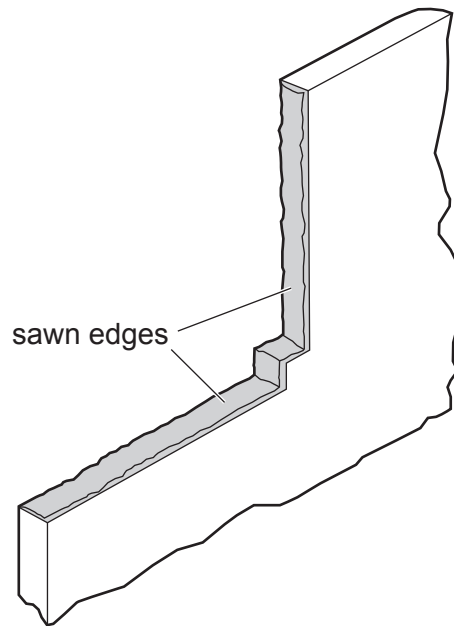

Fig. 12.4
- (g) Fig. 12.4 shows one corner of the tray after the waste acrylic has been removed using a machine saw.